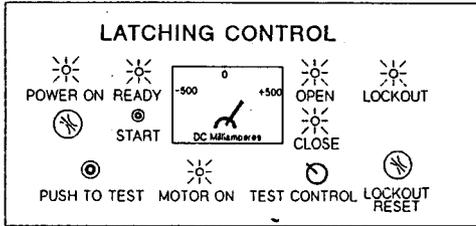

Figure 14) Shielded Receiver RLU Controls.
7.4.24 TURN the power ON to the LATCHING CONTROL panel by turning the key clockwise (see Figure 14 below).